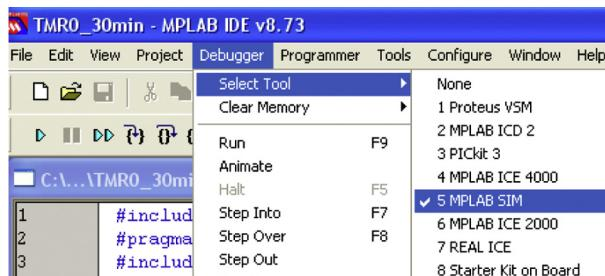

FIGURE 11.2 Turning on the simulator.
- Turn on the simulator with the toolbar using, Debugger, Select Tool, 5 MPLAB SIM as shown in Figure 11.2.